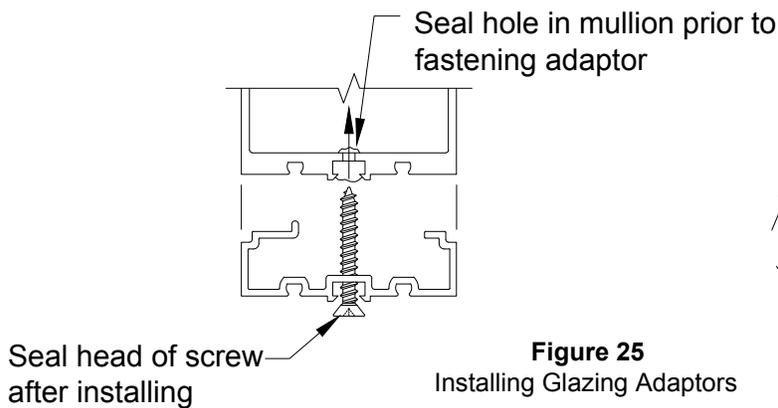

Figure 25
- A.1 Install vertical adaptors first, leaving an equal overlap into each pocket. For captured verticals and all horizontals, insert the hook side into the glazing reglet, then insert leg into reveal on mullion. **See FIGURE 25.** Refer to VERTICAL SPLICING, page 31 & 32 if vertical mullion is spliced within a spandrel lite. Transition adaptors must be installed after mullion splice is sealed.
- A.2 For SSG mullions, install locator leg into one of the glazing reglets. Locate, match drill, and seal penetrations, then secure to mullion with FS-318 #12 x 1 3/4" Phillips Flat Head screw 3" from the ends and 12" O.C. **See FIGURE 25.**